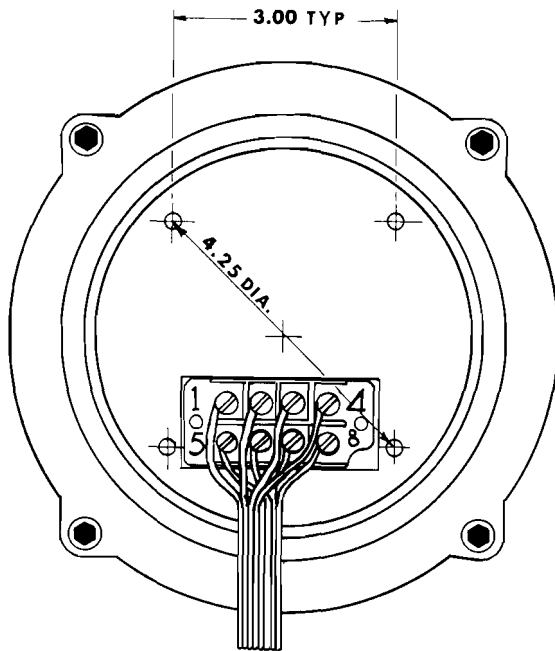

FIG. 4 ROTATOR WIRING
- C. With the control unit and the rotator on the work table, connect the cable between the rotator and control unit using the full length of cable that will be used in the installation. **IT IS IMPORTANT THAT #1 TERMINAL ON THE ROTATOR IS CONNECTED TO THE #1 TERMINAL ON THE CONTROL UNIT AND SO ON. NOTE:** The specifications call for **HEAVIER** gauge wire in two locations. **LEADS #1 and #2** must be **HEAVIER GAUGE** and **less total lead resistance** (See specifications Page 11). Wire the control to the rotator as shown in figures 4 and 5.
- D. With the rotator sitting in the upright position and connected to the control unit, by the eight (8) wire cable, plug the control unit power cord into a 120 VAC 50 60 Hz wall receptacle.